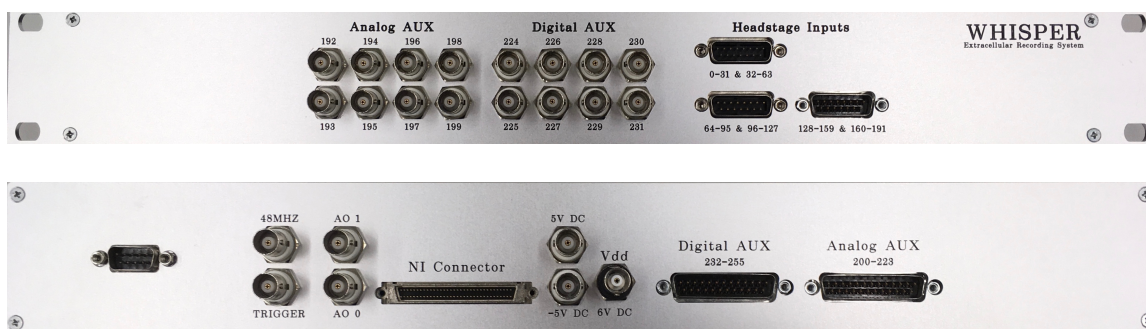

Figure 4: WHISPER Breakout Box (front & back)
- A rack-mountable WHISPER Recording System Breakout Box, which houses a printed circuit board (PCB) that contains all necessary circuitry for interfacing the headstages to the National Instruments DAQ card, including a microcontroller which controls multiplexing and data acquisition, low-noise voltage regulators for power distribution, and inputs for both headstages; as well as for 32 analog and 32 digital aux signals (Figure 4).